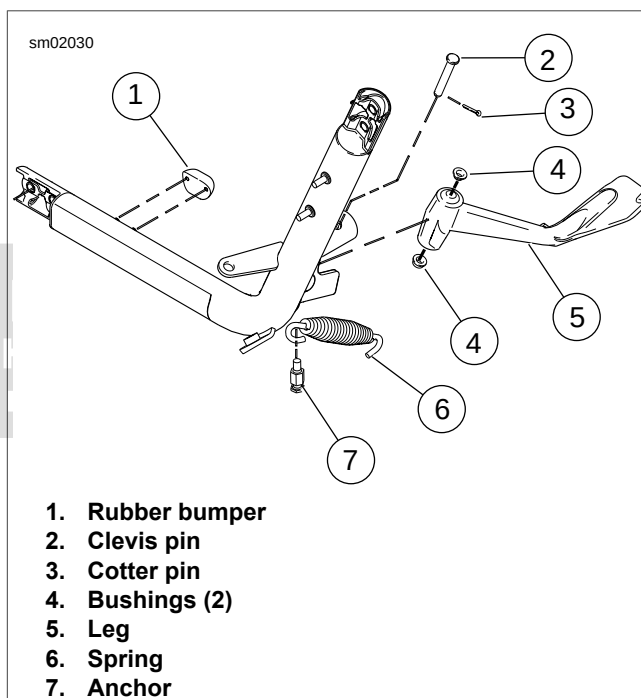

Figure 2-150. Jiffy Stand Components (typical)
2. See Figure 2-150. Remove cotter pin (3) from clevis pin (2).
1. See Figure 2-150. Apply LOCTITE 243 MEDIUM STRENGTH THREADLOCKER AND SEALANT (blue) to anchor (7). Install and tighten anchor to 7-9 Nm (62-79 in-lbs).
2. Apply AEROSOL ANTI-SEIZE LUBRICANT to both bushings (4). Install bushings in position for a retracted leg.
3. Orient leg retracted in mounting bracket, and install **new** clevis pin (2) through the upper bushing (4), leg (5), and lower bushing (4).
4. Install **new** cotter pin (3).
5. Attach spring (6) to the anchor and to jiffy stand leg (5). When properly installed, spring open hook on anchor faces outward and open hook on jiffy stand leg faces down when jiffy stand leg is extended.
6. Replace rubber bumper (1) if required.